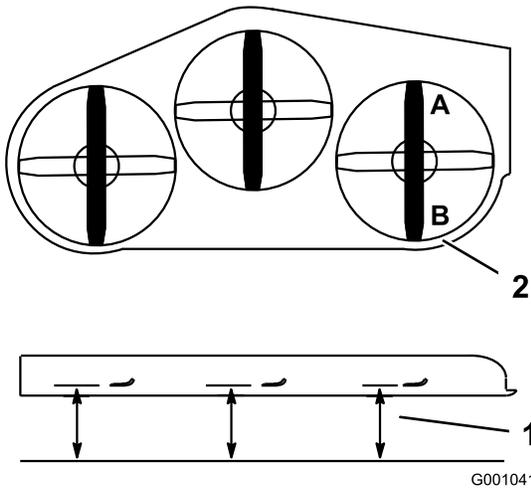

Figure 85
1. Position the **right** blade front-to-rear (Figure 85).
2. Measure the right blade at the **A** location, from a level surface to the cutting edge of the blade tip (Figure 85).
4. Measure the right blade at the **B** location, from a level surface to the cutting edge of the blade tip (Figure 85).
6. The mower blade should be 6 to 10 mm (1/4 to 3/8 inch) lower at position **A** than at position **B** (Figure 85). If it is not correct, proceed to the following steps.